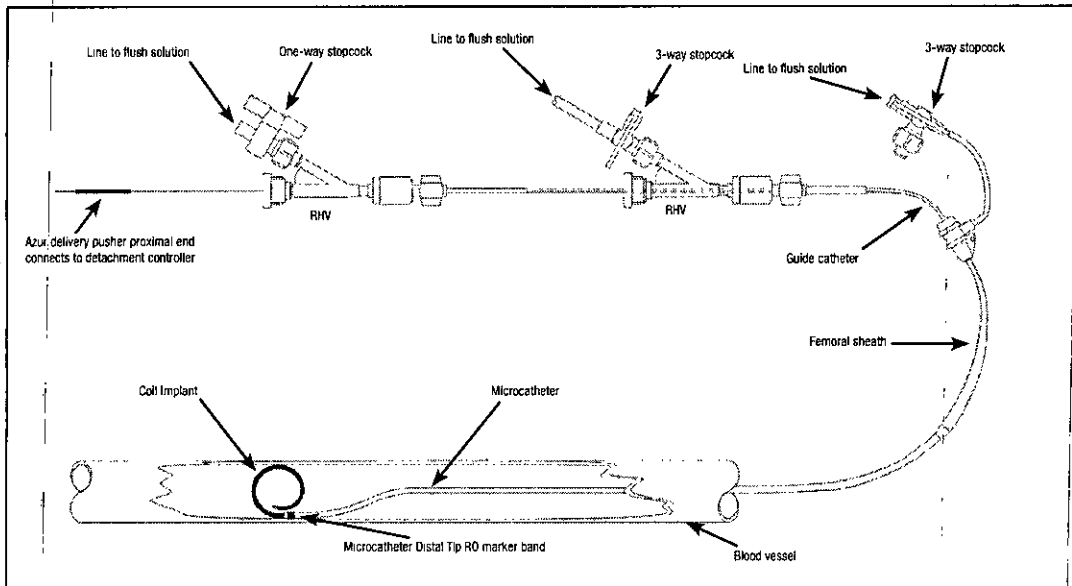

Figure 1 - Diagram of Azur System Setup
- Refer to Figure 1 for the set-up diagram.